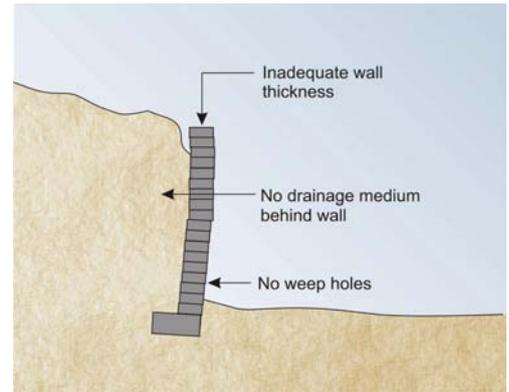

Figure 4 - Poorly built masonry wall
**Old Masonry walls** (Figure 4) - Many old masonry retaining walls have not been built in accordance with modern design standards and often have a low "factor of safety" (GeoGuide LR1). They may therefore be close to failure and a minor change in their condition, or loading, could initiate collapse. You need to take particular care with such structures and seek professional advice sooner rather than later. Although masonry walls sometimes deflect significantly over long periods of time collapse, when it occurs, is usually sudden and can be catastrophic. Familiarity with a particular situation can instil a false sense of confidence.